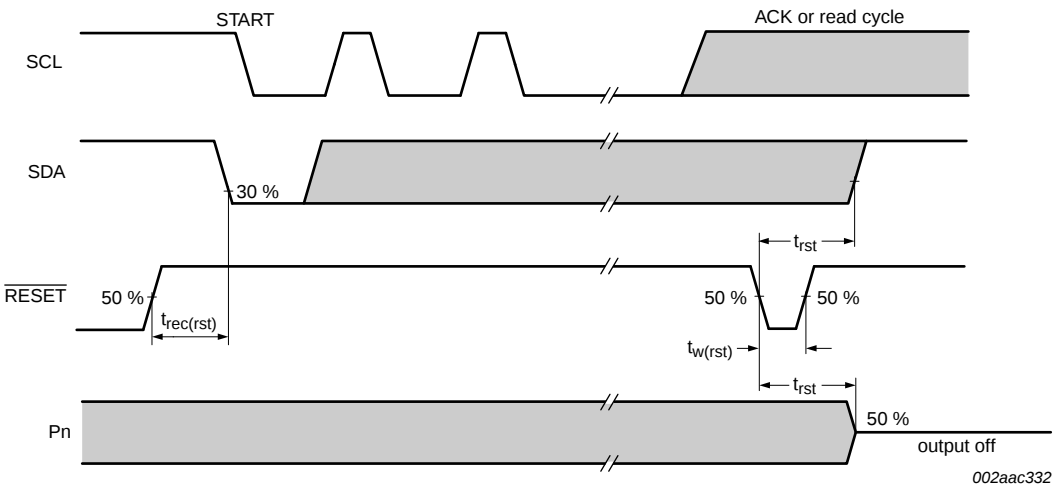

Fig 23. Reset timing
**Reset timing (see Figure 23)**